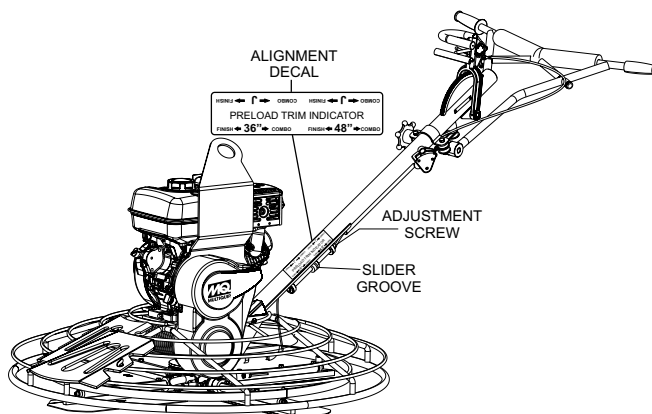

Figure 13. Spring Pre-Load Adjustment
2. Locate the spring pre-load adjustment screw (Figure 13) on the underside of the handle tube.